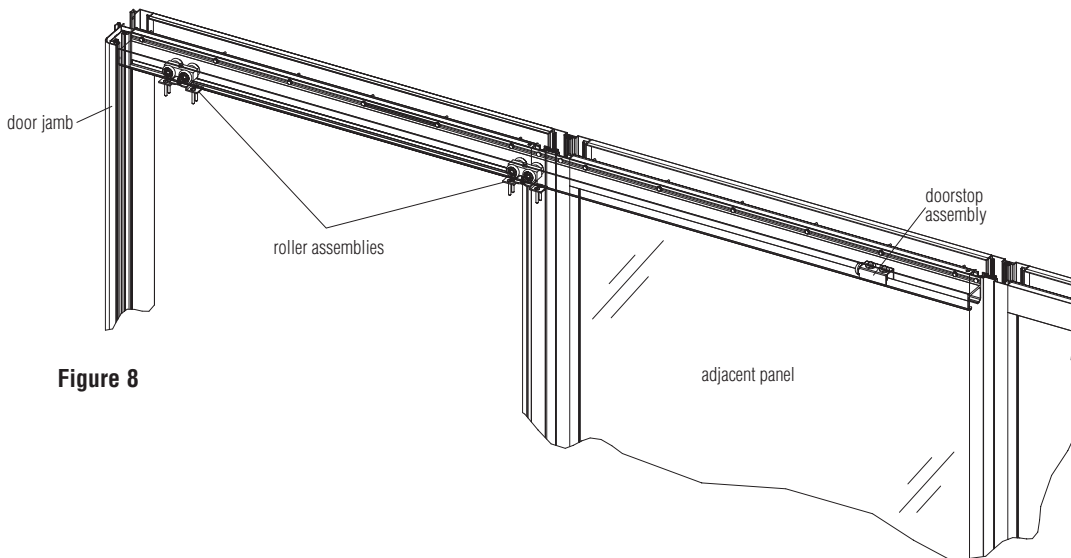

Figure 8
12. Hang and level the door. Slide the doorstop assembly into the rail followed by the two roller assemblies (less mounting brackets) (Figure 8). Place the door so the bottom of the door slips over the nylon glide of the adjustable base bracket. Lift one side of the door upward and engage the shoulder bolt of the roller assembly into the slot in the hanger bracket previously attached to the top of the door. Repeat on the other side of the door. Adjust height and level of door, then tighten lock nut on shoulder bolt.